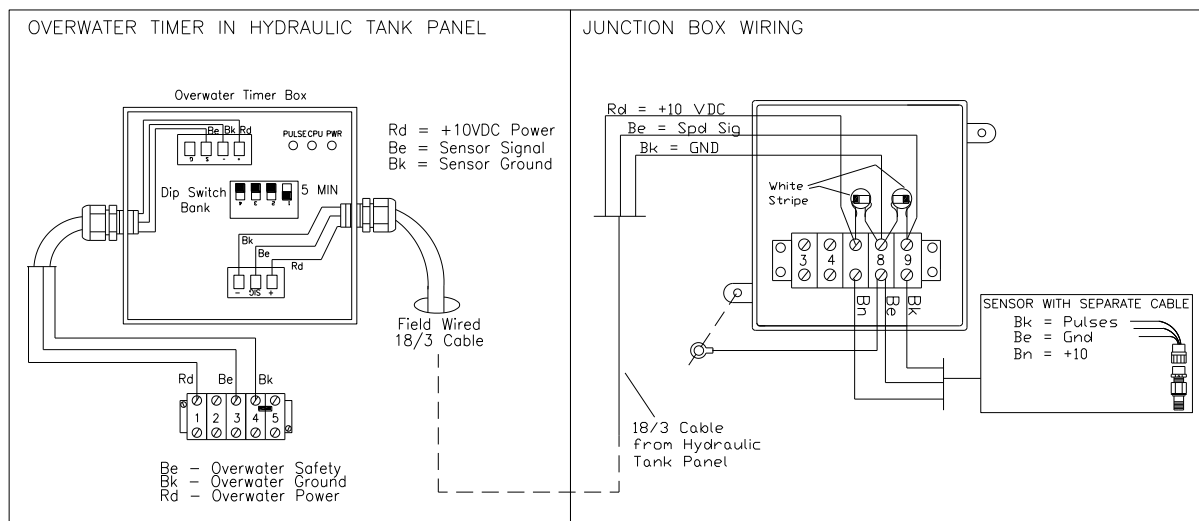

Figure 31b. Wiring of Overwater Timer
3. Strip Cable and wire into the Overwater Timer Box as shown in Figure 31b.